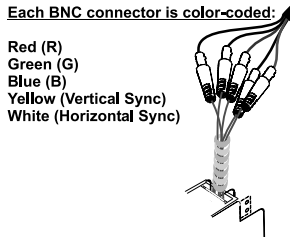

Figure 5: WP-230 RGBHV Outputs
1. Connect the 5 RGBHV BNC output connectors¹ to the pre-installed wiring in the wall box opening that connects to the XGA acceptor (for example, a projector), as Figure 5 defines.